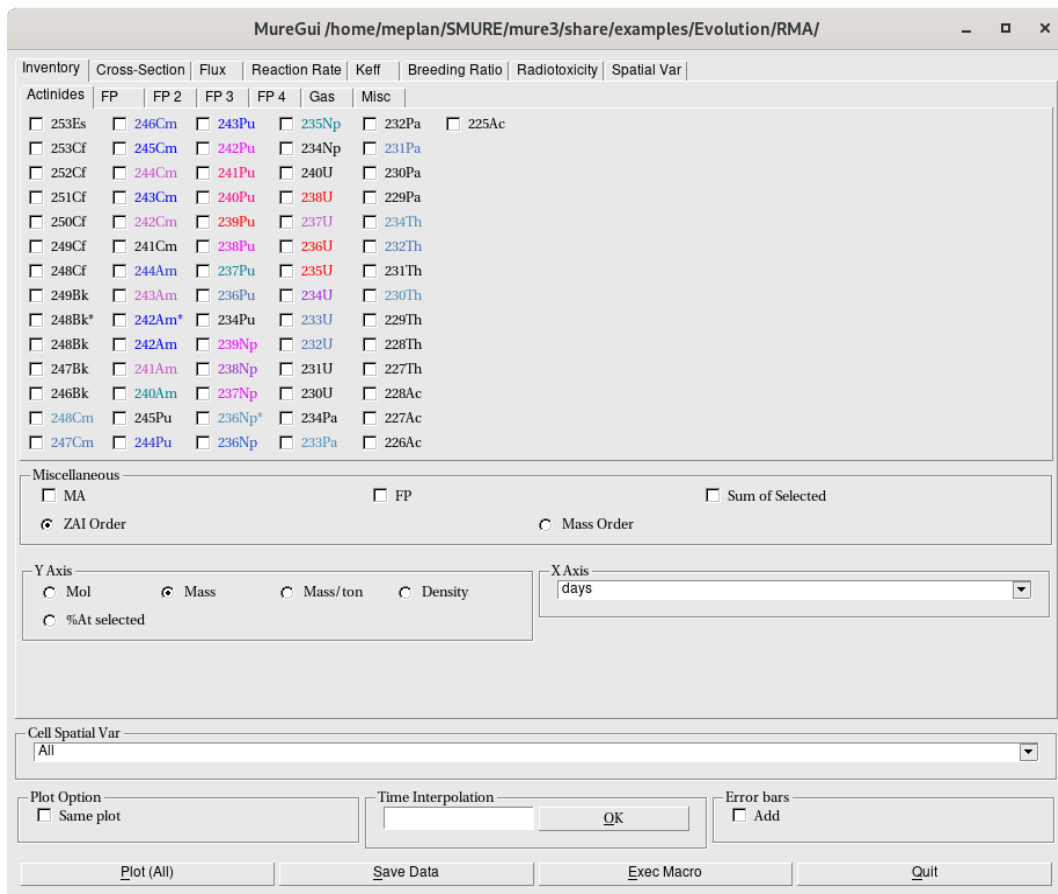

Figure 8.1: MureGui main window. Inventory Tab.
The interface has a Main windows composed of 8 tabs (Inventories, Cross-sections, Fluxes, Reaction Rates, K_eff, Breeding Ratio, Radiotoxicity and Spatial Variables, see Fig. 8.1) and can have up to 8 plot windows (one for each tab).
- In the Inventory Tab, colors of nuclei (see Fig. 8.1) correspond to the total mass scale importance (red: large mass->black: small mass). Nuclei are sorted in 4 categories (Actinides, Fission Products, Gas, and Miscellaneous) but a nucleus could belong to more than one category (a gaseous fission product is in FP and in Gas). “FP” and “AM” check boxes allows respectively the plotting of total fission products and total minor actinides (Np and Am, Cm, ...) . The total mass of checked nuclei can also be automatically performed using the “Sum of Selected” check boxes¹. Finally, nuclei inventories are given in “Mol”, “Mass(g)”, “Mass/ton(kg)”, “Density(At/(barn.cm))” or “%At. Selected”. This last quantity is the number of atoms of a given selected nuclei divided by the sum of atoms of all selected nuclei ; this allows for example to plot the plutonium vector at each evolution step. The “mass/ton” radio-button normalizes the plotted mass (in kg) by the ton of initial heavy nuclei. When several physical cells i are selected (see later with Spatial Variable combo box), the total inventory of one nucleus is simply given by the sum of inventories in each region. Thus we have: